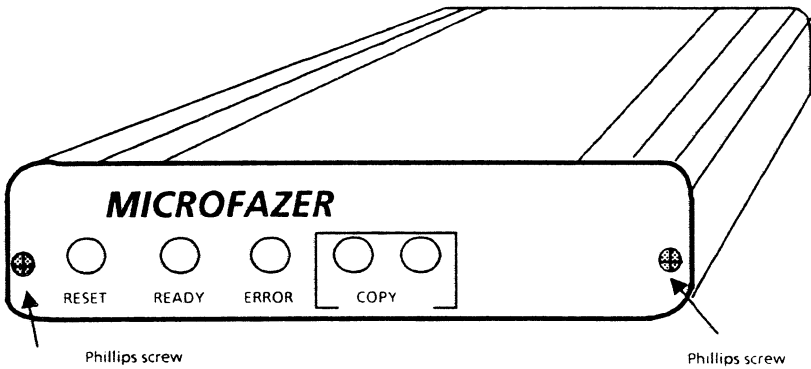
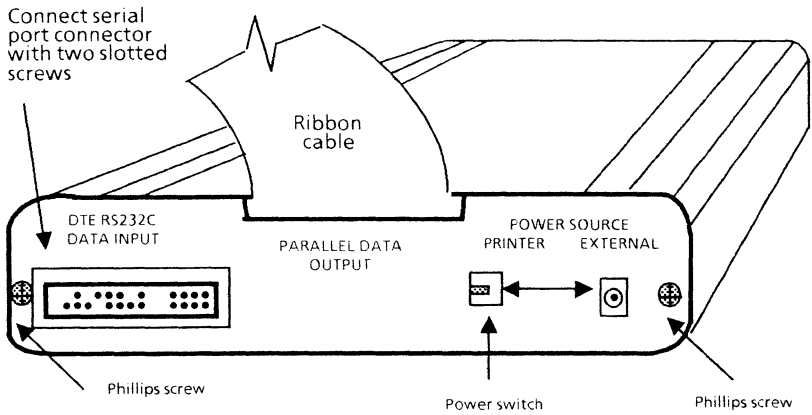

Figure 3-1 Print buffer (front view)
Figure 3-2 Print buffer (rear view)
1. Unpack the print buffer and identify the front (Figure 3-1) and the back (Figure 3-2) of the unit.
- Using a Phillips screwdriver, remove the screws (refer to Figure 3-2) and the back cover of the print buffer.